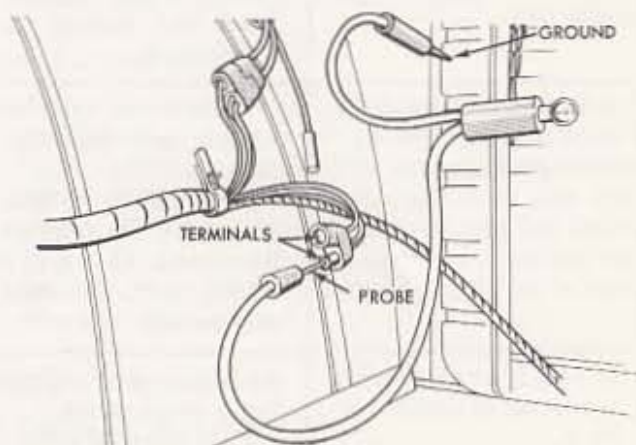

Fig. 18—Test Lamp between Connection and Ground
2-2. Check for power starting at the switch and working toward the socket as in Fig. 18.
- 3-2. Disconnect the bulb socket from the wiring harness. Check for power at the wiring harness connector (Fig. 18). If there is power, the socket assembly is defective. If there is no power, check for power at each disconnect starting at the light socket and going toward the switch.